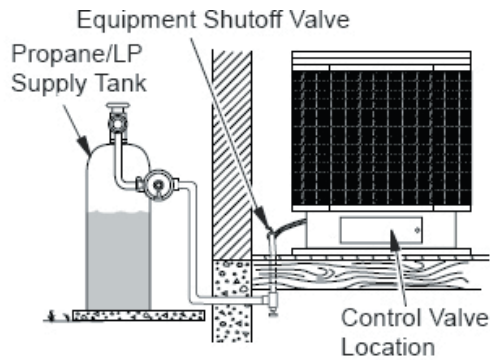
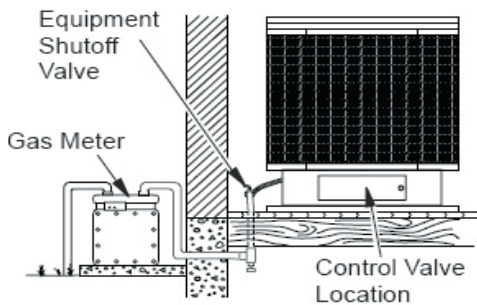

Figure 9 - Checking Gas Joints
Figure 10 - Checking Gas Joints
1. Close equipment shutoff valve (see Figure 10).
3. Check all joints from gas meter to equipment shutoff valve for natural gas or propane/PL supply to equipment shutoff valve for propane /LP (see Figures 9 or Figure 10). Apply noncorrosive leak detection fluid to all joints. Bubbles forming show a leak.
4. Check all joints from equipment shutoff valve to gas regulator (see Figure 9, and Figure 19). Apply noncorrosive leak detection fluid to all joints. Bubbles forming show a leak.